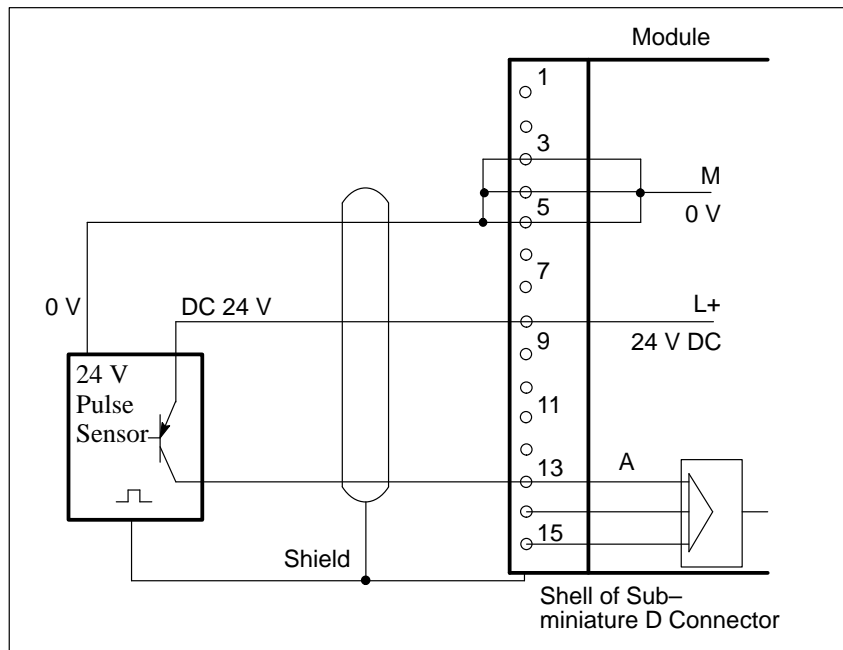

Figure 9-10 Connecting a Counting Pulse Sensor for 24 V DC
- Figure 9-10 shows how to connect a counting pulse sensor for 24 V DC.